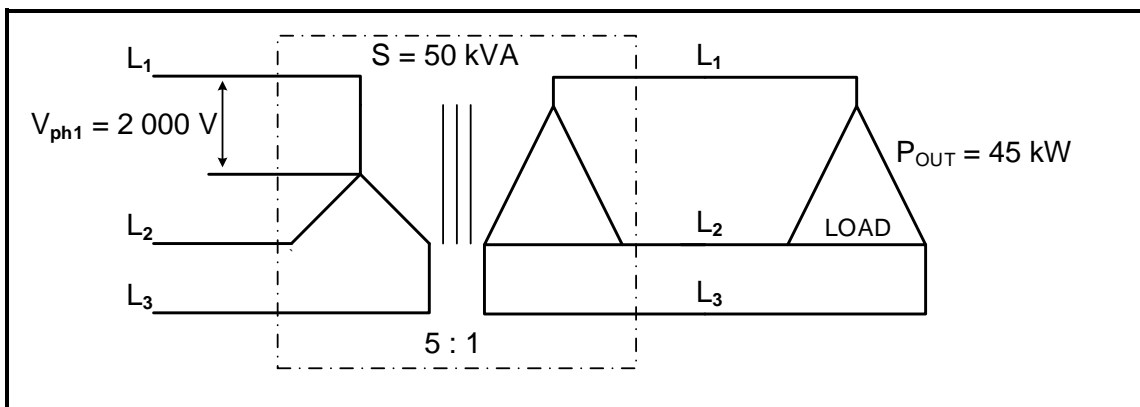

FIGURE 4.7
4.7 Refer to FIGURE 4.7 below and answer the questions that follow.